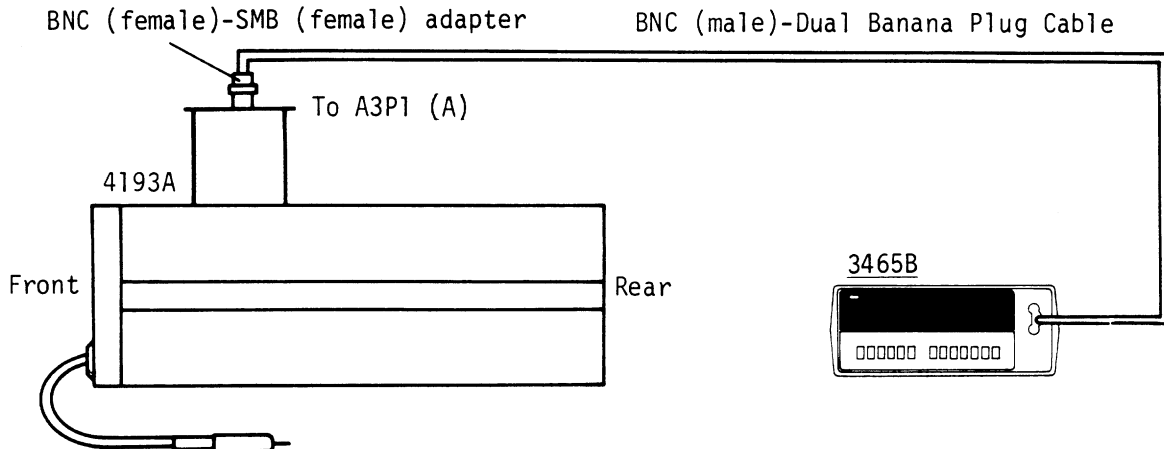

Figure 5-15. V Channel Sampling Diode DC Bias Adjustment Setup.
2. Disconnect the cables from A3P1 (A), A3P2 (V SP IN) and A3P3 (B).
4. Connect the INPUT terminal of the 3465B to A3P1 (A) as shown in Figure 5-15.